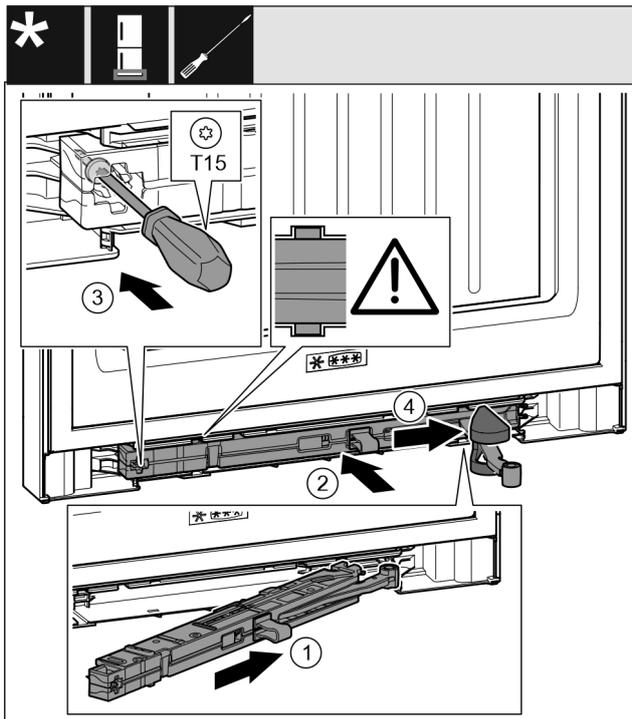

Fig. 37
- ▶ On the swap bearing block side, slide the closing damper unit into the recess at an angle up to the stop. Fig. 37 (1)
- ▶ Push the closing damper unit into the recess completely. Fig. 37 (2)
- ▶ Use a T15 screwdriver to tighten the screw. Fig. 37 (3)
- ▶ Push the cover over the joint. Fig. 37 (4)